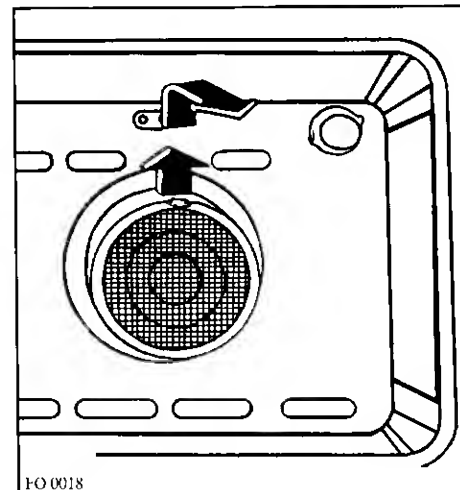

Fig. 9
- Push the protruding tongue on the filter, upward (See Fig. 9)